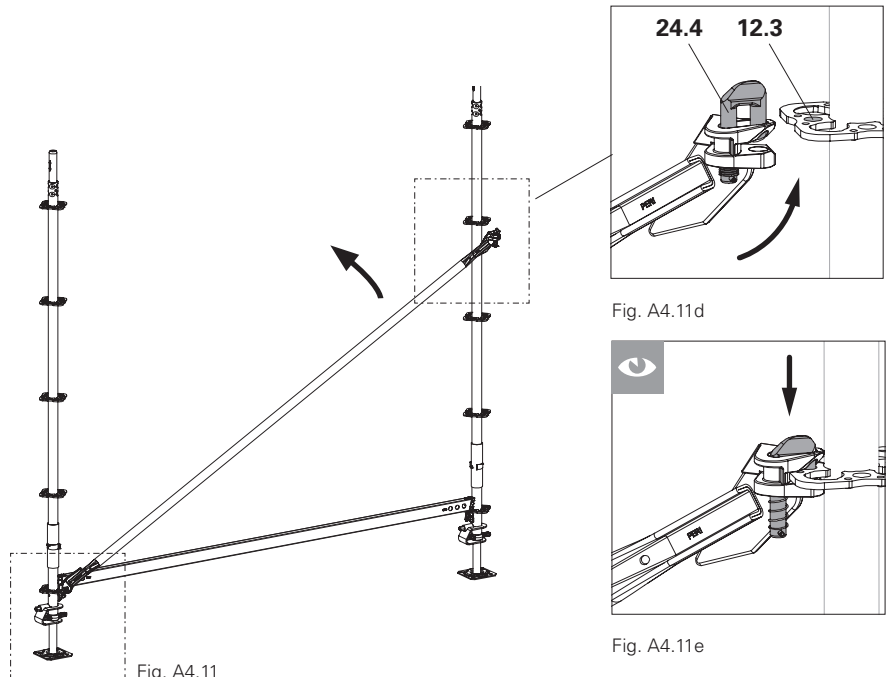

Fig. A4.11
- Swivel brace to the base scaffold. (Fig. A4.11)